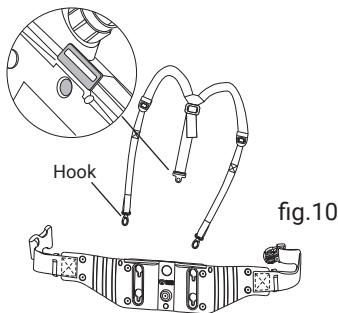

fig.10
2. Position the shoulder straps as desired and then attach the two hooks to the corresponding holes on each side of the belt (See fig.10)